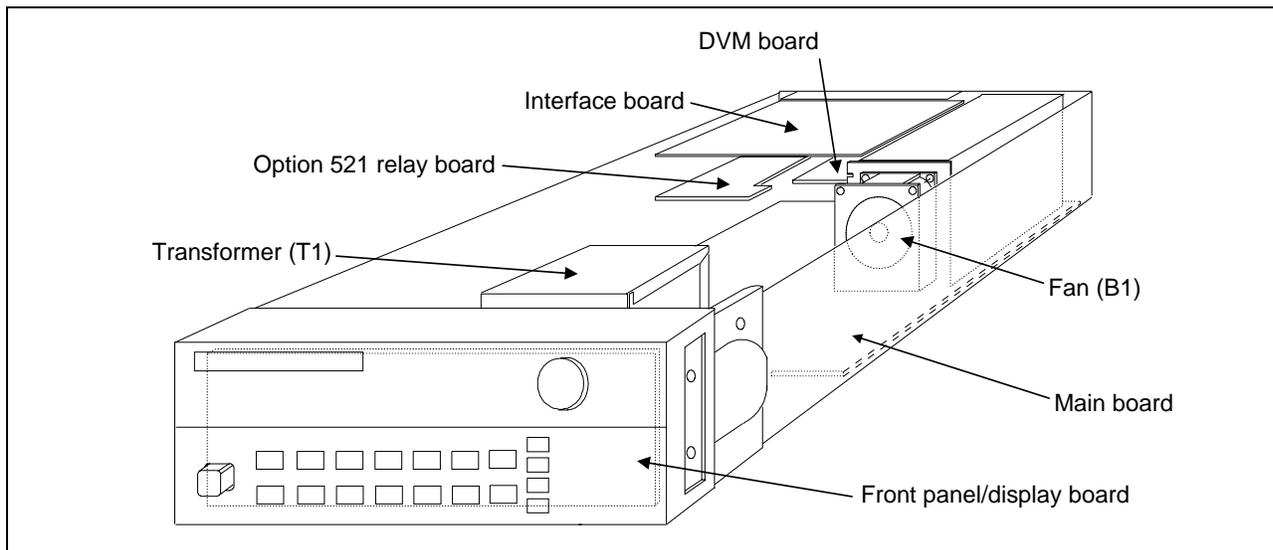
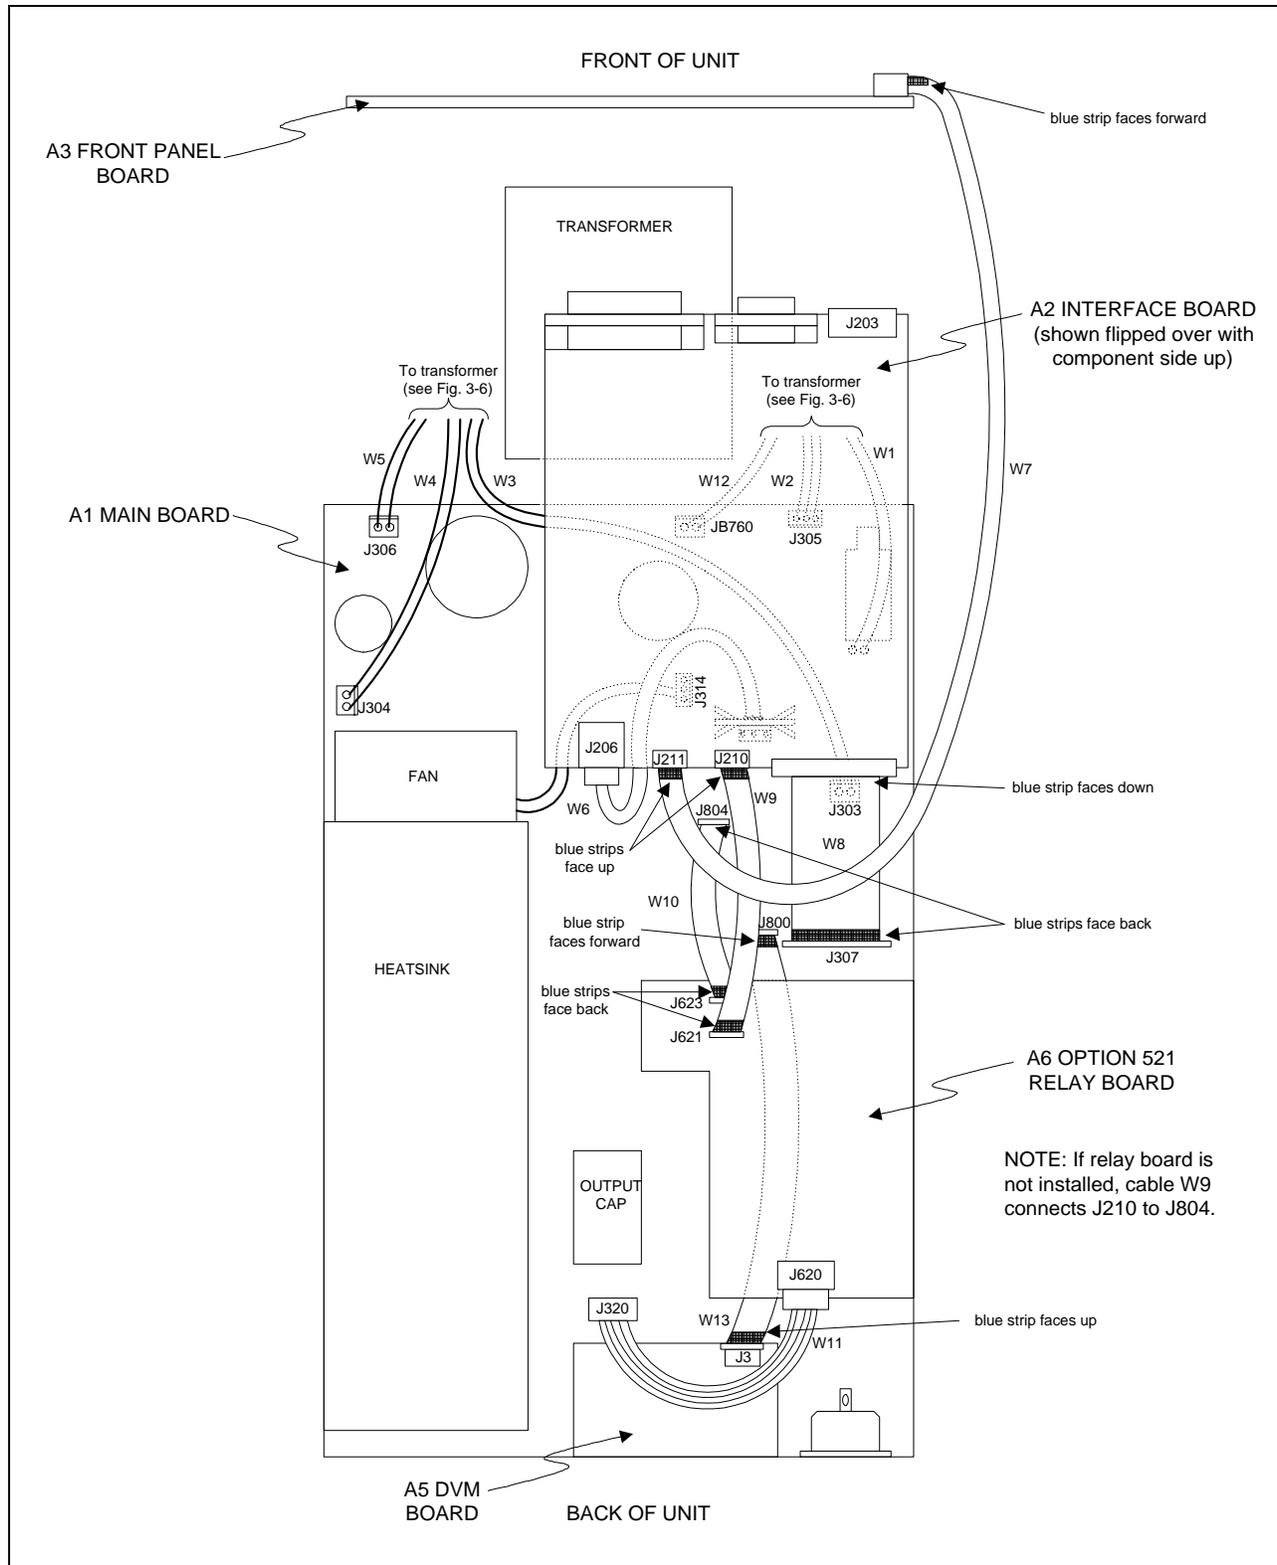
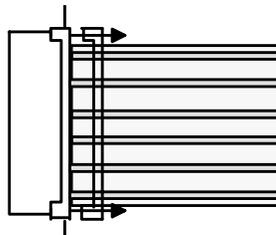

Figure 3-3. Component Location
Figure 3-4. Cable Locations
Figure 3-5. Cable Release
Figure 3-3 shows the location of the major components of the unit. Note that not all boards are included with every model. Figure 3-4 shows the location of the cables that interconnect all of the boards. This figure shows only the boards, not the chassis of the unit.
- f. Unplug the ribbon cables. Note the position of the blue conductive side for reinstallation as shown in figure 3-4. Release the cable by pulling out the end tabs as shown by the arrows in figure 3-5.
- c. Once the board is free, you can remove the ribbon cable (see figure 3-5).
- c. Unplug the ribbon cables. Note the position of the blue conductive side for reinstallation as shown in figure 3-3. Release the cable by pulling out the end tabs as shown by the arrows in figure 3-5.
- c. Unplug the ribbon cable from the DVM board. Note the position of the blue conductive side for reinstallation as shown in figure 3-4. Release the cable by pulling out the end tabs as shown by the arrows in figure 3-4.
NOTE: Be sure to note the position and orientation of all cables prior to removal so that no mistake is made when reinstalling these cables (see figure 3-4).